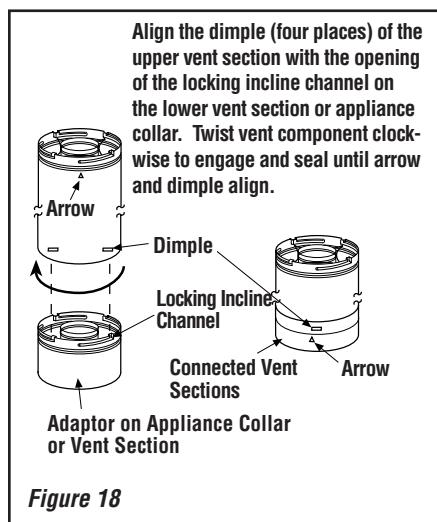

Figure 18
B. Attach adaptor (with probe) to appliance collar. Secure Vent® SV4.5 direct-vent system components are unitized concentric pipe components featuring positive twist lock connections (*see Figure 18*).
To attach a vent component to the adaptor on appliance collar, align the dimpled end over the adaptor collar, adjusting the radial alignment until the four locking dimples are aligned with the inlet of the four inclined channels on the collar (*refer to Figure 18*). Push the vent component against the collar until it fully engages, then twist the component clockwise, running the dimples down and along the incline channels until they seat at the end of the channels.
Push the vent component against the previous section until it fully engages, then twist the component clockwise running the dimples down and along the incline channels until they seat at the end of the channels. **This seating position is indicated by the alignment of the arrow and dimple as shown in Figure 18.**
F. Change vent direction to horizontal/inclined run. At transition from or to a horizontal/inclined run, install the SV4.5 E45 and SV4.5 E90 elbows in the same manner as the straight vent sections. The elbows feature a twist section to allow them to be routed about the center axis of their initial collar section to align with the required direction of the next vent run element. **Twist elbow sections in a clockwise direction only so as to avoid the possibility of unlocking any of the previously connected vent sections (see Figures 18 and 20).**
Secure Vent® SV4.5 direct-vent system components are unitized concentric pipe components featuring positive twist lock connection, (*refer to Figure 18 on Page 18*). All of the appliances covered in this document are fitted with collars having locking inclined channels. The dimpled end of the vent components fit over the appliance collar to create the positive twist lock connection.
To attach a vent component to the appliance collar, align the dimpled end over the collar, adjusting the radial alignment until the four locking dimples are aligned with the inlets of the four incline channels on the collar (*refer to Figure 18 on Page 18*).
Other vent sections may be added to the previously installed section in accordance with the requirements of the vent tables. To add another vent component to a length of vent run, align the dimpled end of the component over the inclined channel end of the previously installed section, adjusting the radial alignment until the four locking dimples are aligned with the inlets of the four incline channels of the previous section. Push the vent component against the previous section until it fully engages, then twist the component clockwise running the dimples down and along the incline channels until they seat at the end of the channels. **This seating position is indicated by the alignment of the arrow and dimple as shown in Figure 18 on Page 18.**
At transition from or to a horizontal/inclined run, install the SV4.5E45 and SV4.5E90 elbows in the same manner as the straight vent sections. The elbows feature a twist section to allow them to be routed about the center axis of their initial collar section to align with the required direction of the next vent run element. **Twist elbow sections in a clockwise direction only so as to avoid the possibility of unlocking any of the previously connected vent sections (see Figures 18 and 20 on Page 18).**